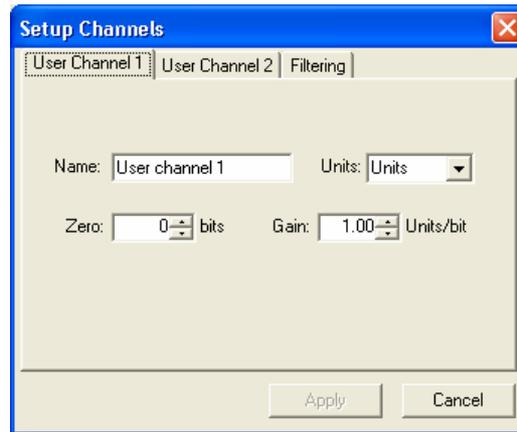

Figure 37 - Setup Channels Dialog (User Channel Page)
1. Choose **Setup** ➔ **Channels** from the main menu. The Setup Channels Dialog (Figure 37) appears.
The two user channels of the RCA40 are configured in the same way so the pages used to set them up are identical. Click the **User Channel 1** tab to display the User Channel 1 page (Figure 37) and the **User Channel 2** tab to display the User Channel 2 page.